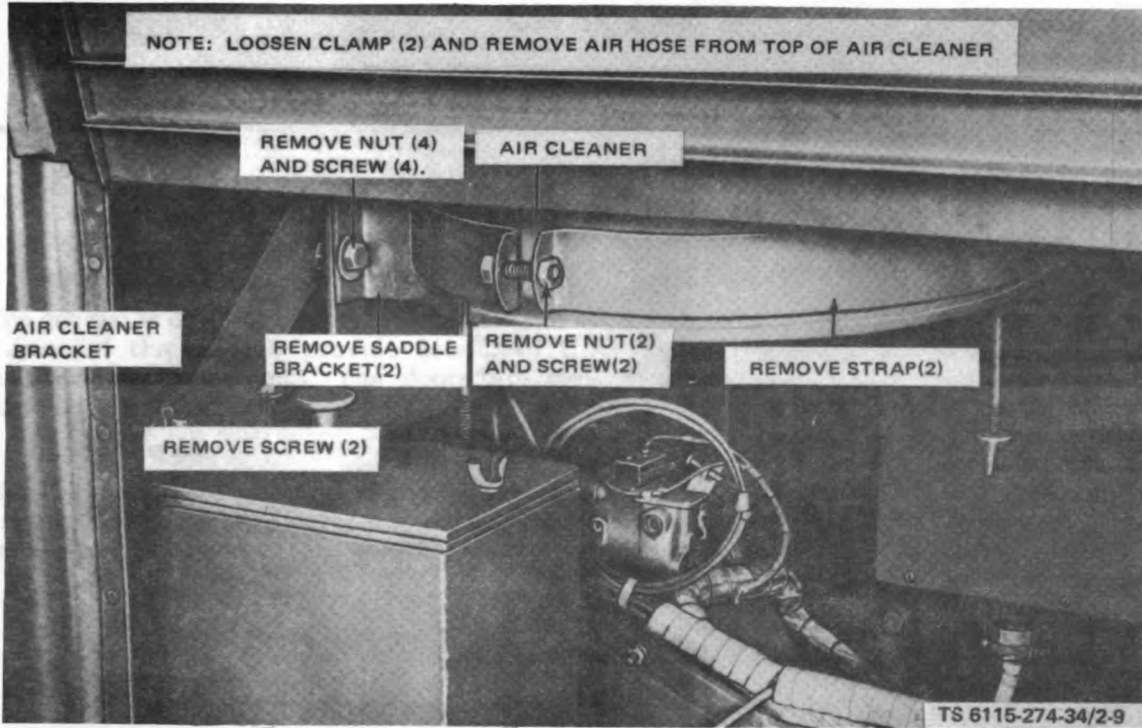
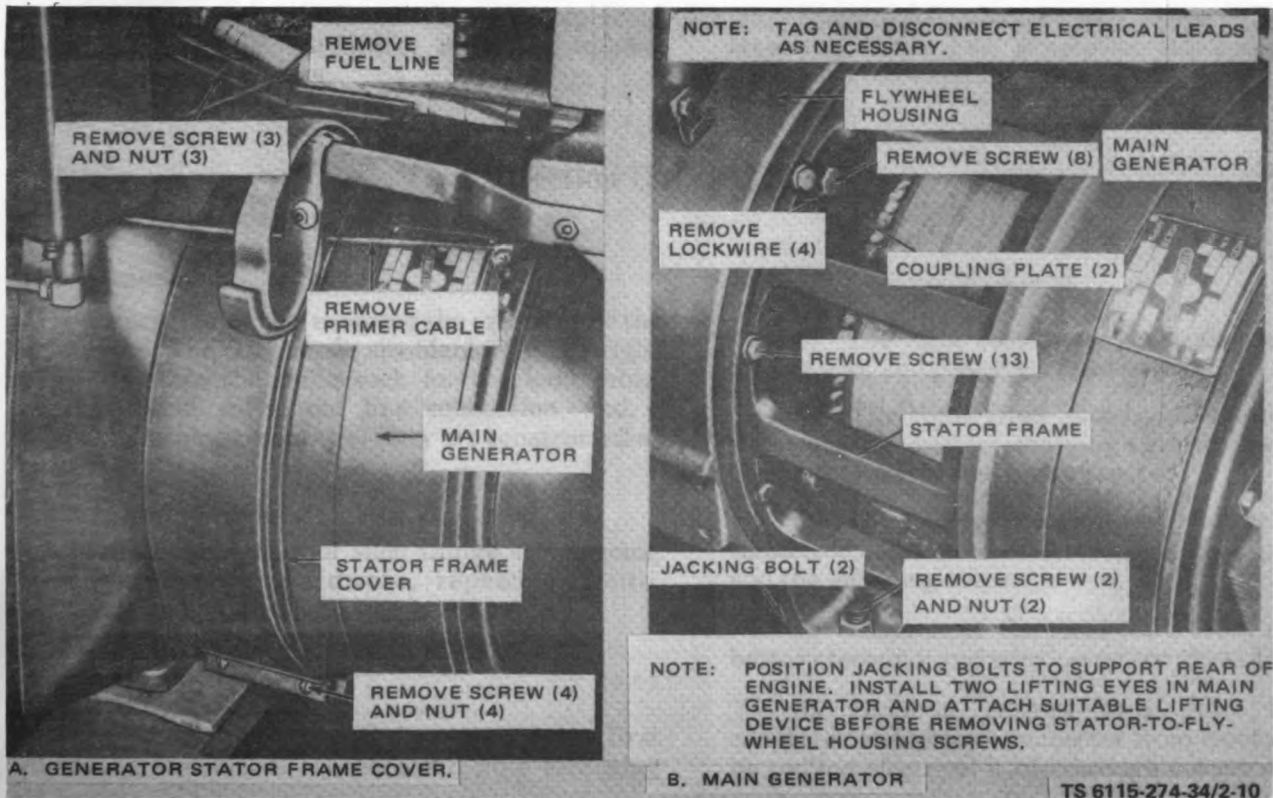

Figure 2-9. Air Cleaner, Bracket, and Hose, Removal and Installation
Figure 2-10. Main Generator, Removal and Installation
(8) Remove air cleaner, bracket and hose (fig. 2-9).
(9) Loosen clamps and remove air hose from top of air cleaner.
(10) Remove nuts and screws and remove straps.
(11) Remove air cleaner.
(12) Remove nuts and screws and remove saddle brackets.
(13) Remove screws and remove air cleaner bracket.
(14) Refer to figure 2-10 and the following steps to remove the main generator.
(15) Remove screws and nuts and remove fuel line. Remove primer cable.
(16) Remove screws and nuts and remove stator frame cover.
(17) Tag and disconnect electrical leads as necessary.
(18) Remove lockwire and screws holding stator frame to coupling plates.
(19) Position jacking bolts to support rear of engine.
(20) Remove screws and nuts securing the generator to frame base.
(21) Install two lifting eyes in main generator and attach suitable lifting device.
(22) Remove stator-to-flywheel housing screws.
(23) Remove generator.
(1) Using suitable lifting device install generator in place behind engine (refer to fig. 2-10).
(2) Install screws connecting stator to flywheel housing.
(3) Attach generator to frame base with screws.
(4) Remove lifting eyes from generator and loosen jacking bolts from under rear of engine.
(9) Refer to figure 2-9 and install air cleaner bracket and saddle brackets and tighten screws.
(10) Install air cleaner and straps and tighten screws.
(11) Attach air hose to top of air cleaner and tighten clamps.